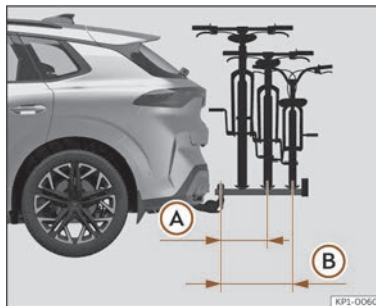

Fig. 198 Schematic representation of the maximum load overhang of a bicycle rack for two or three bicycles.
The maximum overhang shall not exceed 500 mm from the centre of the ball head to the to the centre of the rail of the last support >>> **Fig. 198 (A)** for two-bicycle racks. In the case of three-bicycle racks, the overhang must not exceed 700 mm >>> **Fig. 198 (B)**.